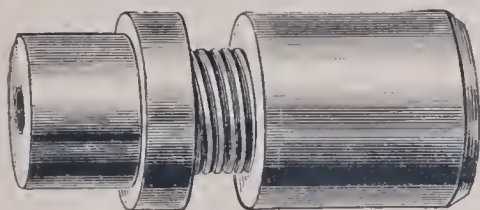

Fig. 16. Reamer.
**REAMING AND CASING.** Casing-pipe is used to keep the hole clean and to prevent caving. When its use is found necessary, the hole is enlarged to a suitable diameter by means of a *Reamer*, shown in Fig. 16. This consists of a guide the size of the drilled hole, and a face above in which diamonds are set and which cut away the sides of the hole, following the guide. No core is made in reaming, as the object is simply to enlarge the hole. The lower piece, consisting of guide and face, is screwed into the head, and thus the guide and face can be renewed, when worn out, without the necessity of replacing the head. And as the screws are of the same diameter in reamers of different sizes, any head can be used with